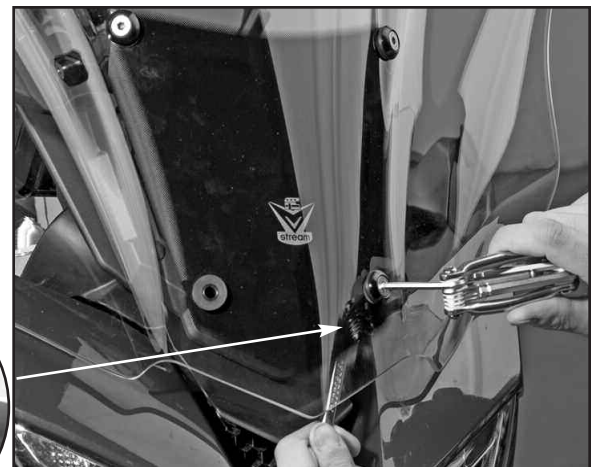

Figure 10
11. Insert a Screw Assembly into a lower hole. With box wrench angled toward the center of the windshield, hold Nut (6) with box end of wrench while you spin a M6 Screw Assembly to secure shield. (4mm Hex Key, Box Wrench) Figure 10
13. Tighten all 4 M6 Flat Screws firmly. (4mm Hex Key, Box Wrench) Figure 10